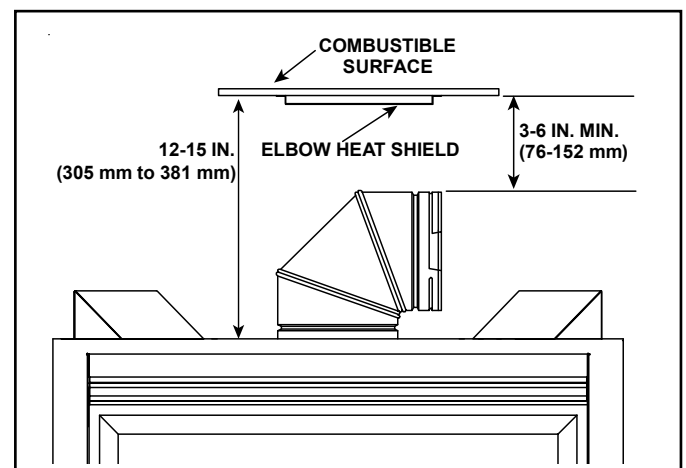

Figure 6.2 Elbow Heat Shield Installation Location
2. If the combustible materials are to be installed between 12 to 15 inches above the top of the appliance, the elbow heat shield is required. See Figure 6.2.
1. The elbow heat shield is not required if combustible materials, or combustible chases, are installed a minimum of 6 inches above the top of the elbow. See Figure 6.2.
2. If the combustible materials are to be installed between 3 inches and 6 inches above the top of the elbow, the elbow heat shield is required. See Figure 6.2.
2. Fasten the shield in place using the four pilot holes. The shield should be oriented such that the 13 1/8 inch dimension (longest dimension) is running in the same direction the elbow is pointing. The shield should be centered directly above the elbow, and positioned so that it creates a 1/2 inch airspace between the shield and the combustable surface. See Figure 6.2.